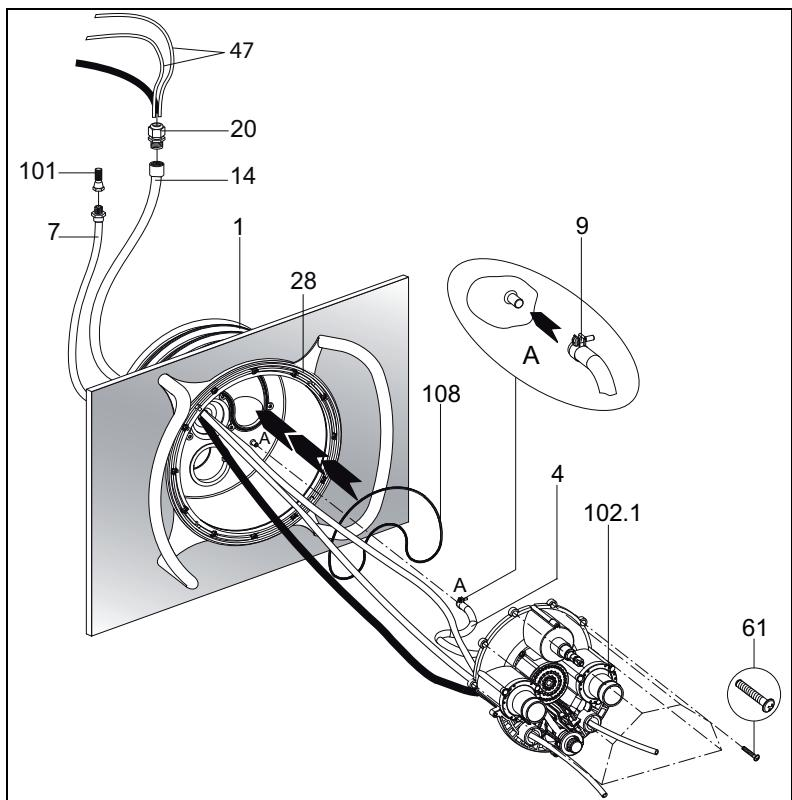

Fig. 10
2. Insert the O-ring (**108**) in the main housing (**1**) (*Fig. 10*).
3. Screw the ten enclosed tapping screws (**61**) into the nozzle housing. Place the pre-assembled nozzle housing (**102.1**) at the main housing (**1**) (*Fig. 10*).
4. Lay the pneumatic hoses (**47**) and cables of the floodlight through the protective conduit (**14**) and seal with the cable gland (**20**) (*Fig. 10*).
5. Fasten the internal air line (**4**), that is already pre-assembled completely at the nozzle housing (**102.1**) or air regulator, with the hose clamp (**9**) to the main housing (**1**) (*Fig. 10*).
6. Lay the pneumatic hoses through the lower or upper openings of the nozzle housing (**102.1**) (light ON/OFF left; pump ON/OFF right); (*Fig. 10*)
7. Align the complete nozzle housing (**102.1**) to the main housing (**1**) and fasten the ten pre-assembled tapping screws (**61**) (*Fig. 10*).